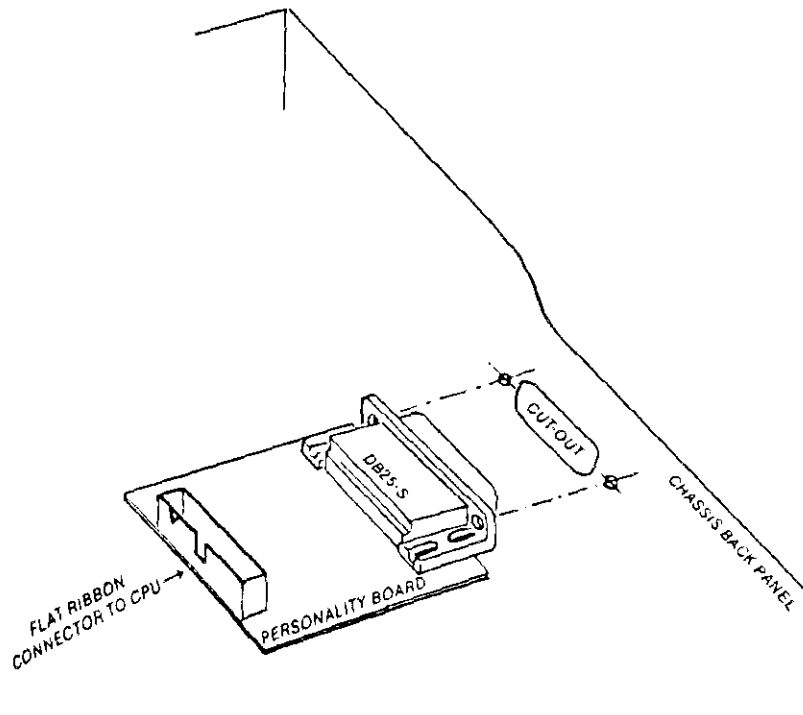

FIGURE 1.7
3. Install the #6 nuts, washers and screws, inserting the screws through the holes on each side of the personality board's DB-25 connector as illustrated in Figure 1.7.
8. Plug the other connector into the RPB-200 personality boards DB-25 connector located at the back of the S-100 chassis. See Figure 1.7.